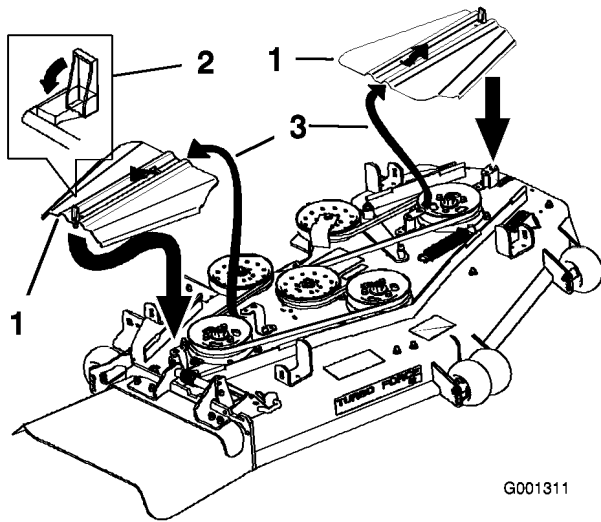

Figure 50
10. Install the belt covers and close the latches (Figure 50).